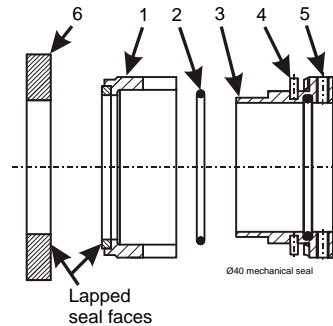
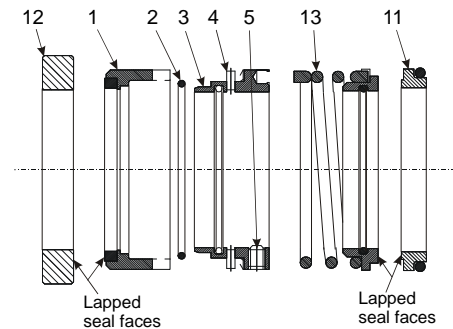
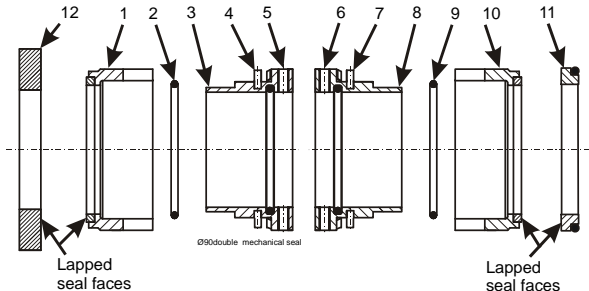

Figure 24 Type 1 single mechanical seal
Figure 25 Type 2 two part double mechanical seal
Figure 26 Type 3 double mechanical seal
The rear wear plate holds the seal seat retained by a circlip (item 6 in Figure 24). Once the wear plate has been removed the remainder of the mechanical seal is left exposed on the shaft.
Removal of the wear plate exposes the outer seal seat carrier retained by four off cap head socket screws. Removing the screws and carrier exposes the remainder of the mechanical seal on the shaft. The inside face of the seal carrier holds the outer seal seat (item 12 in Figure 25 or Figure 26, item 1 in Figure 27) retained by a clamping ring held in place by screws.
(Figure 24) HL80/ HL100M/ HL125MS/ HL150M/ HL150MHD
(Figure 25) HL130M/ HL160M/ HL250M
(Figure 26) HL110M/ HL200M
Inspect all items for wear. The seal face for type 1, 2 & 3 seals (item 6 in Figure 24; item 12 in Figure 25 or Figure 26) is double sided. It may be reversed when refitted to provide a second wearing face. Replace any damaged parts and renew all O-rings.
(Figure 24) NC80/ NC100/ NC150
(Figure 26) HL110M/HL200M